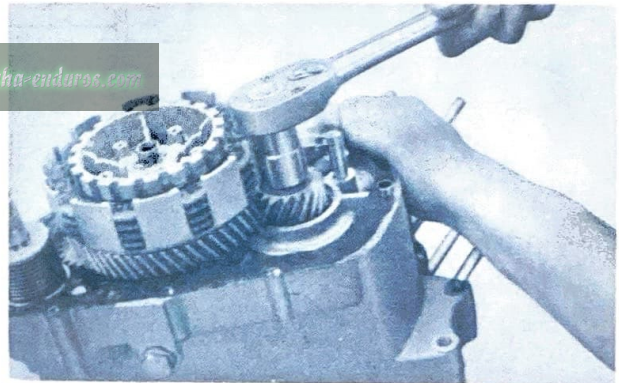

Fig. 4-10-1
- a. Feed a rolled-up rag between the teeth of the primary drive gear and the primary driven gear to lock them. Pull up the primary drive gear. (Fig. 4-10-1)